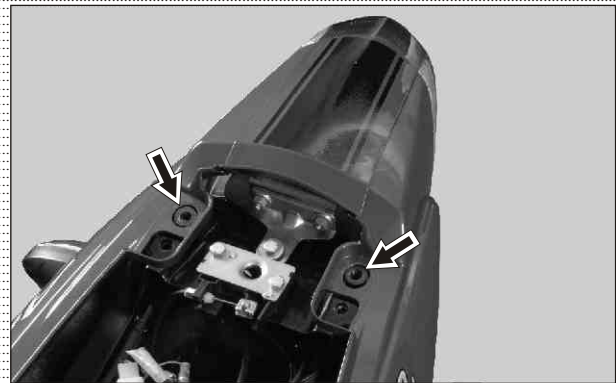

Fig. 5.53
- Take out punched washer 2 nos from the pillion handle bar mounting. (Fig. 5.53)
While reassembling ensure that punched washers are located at pillion handle mounting. (Fig. 5.53)